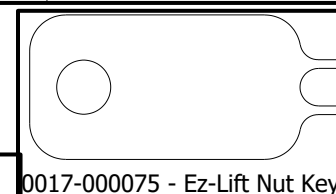

Figure 2. 0017-000075 - Ez-Lift Nut Key
**Note:** There is a specialty tool in the kit that is used to hold the nut for bolting the gearbox together. See Figure 2.